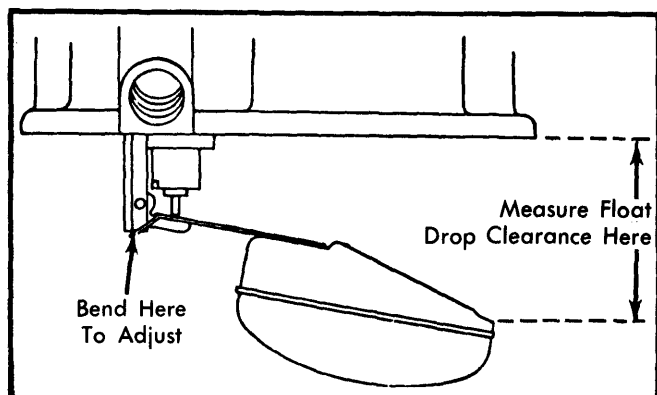

Fig. 3 Float Drop Clearance Measurement
2) Hold air horn in upright position. Allow float to hang free. Measure minimum clearance from tip of float to bottom of air horn casting with a suitable gauge. See Fig. 3.